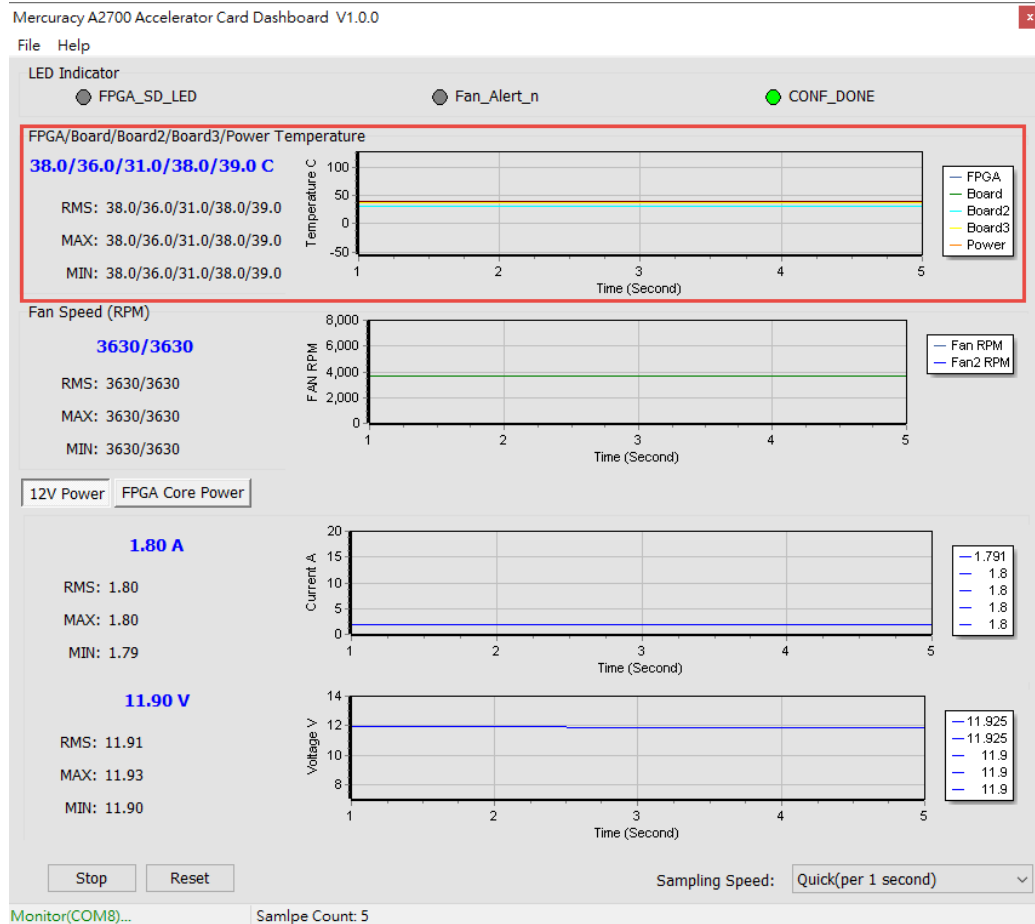
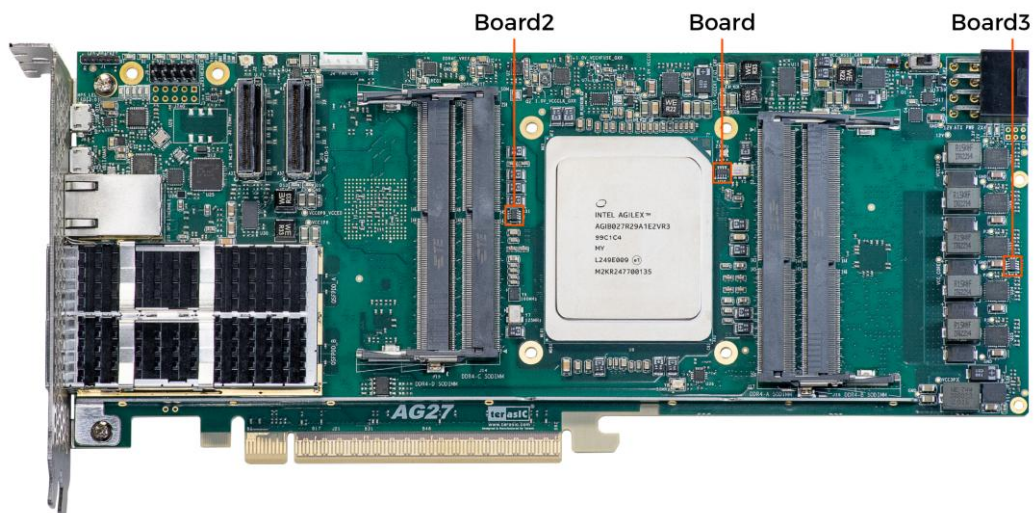

Figure 4-9 Temperature section
Figure 4-10 Location of the board's ambient temperature
- **FPGA/Board/Transceiver Temperature:** The Dashboard GUI will real-time show the Mercury A2700 Accelerator Card's ambient temperature (**Board, Board2 and Board3** data in the GUI) and FPGA and Power transceiver temperature. Users can get the board's temperature status in time. The information will be refreshed per 1 second, and displays through diagram and number, as shown in **Figure 4-9**. **Figure 4-10** shows the location of the two temperature sensors of **Board** and **Board2** on the GUI.